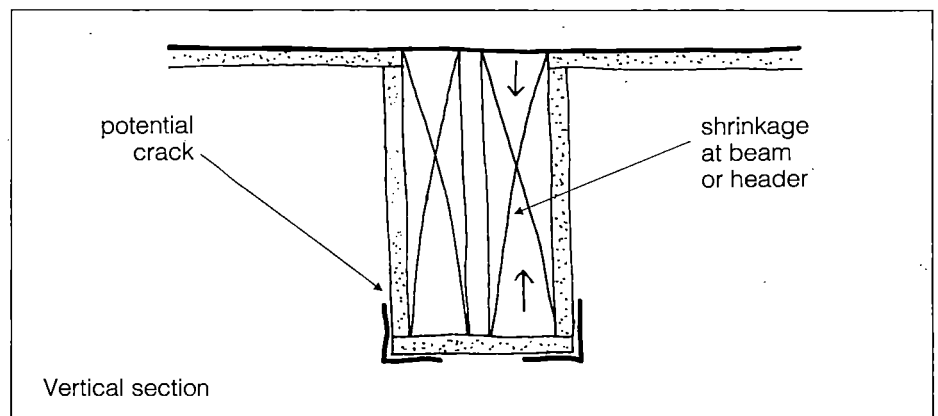

Fig. 15. Cornerbead cracking
*Differential shrinkage, especially at beams or headers, can cause cracking along the cornerbead edge (fig. 15).*